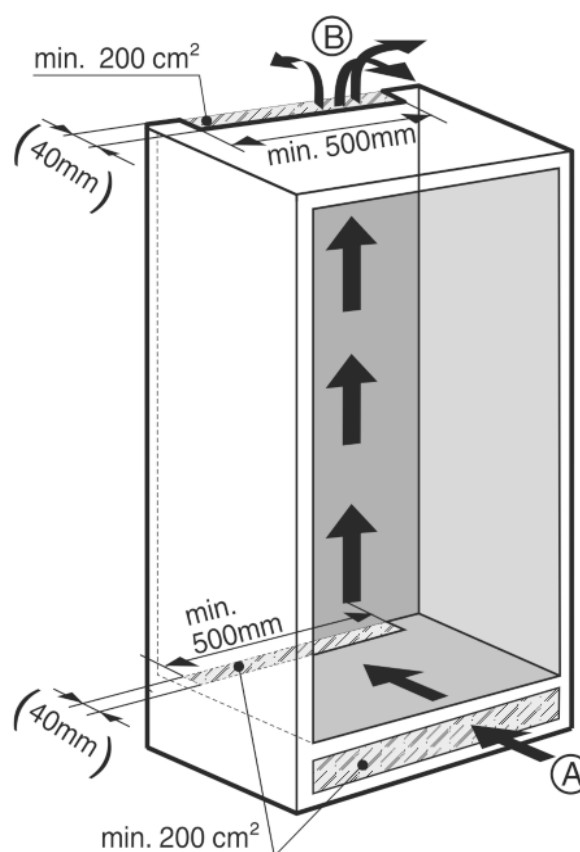

Fig. 3
- There must be an effective ventilation shaft of at least 200 cm² per appliance at the air inlet Fig. 3 (A) and outlet Fig. 3 (B) vent.